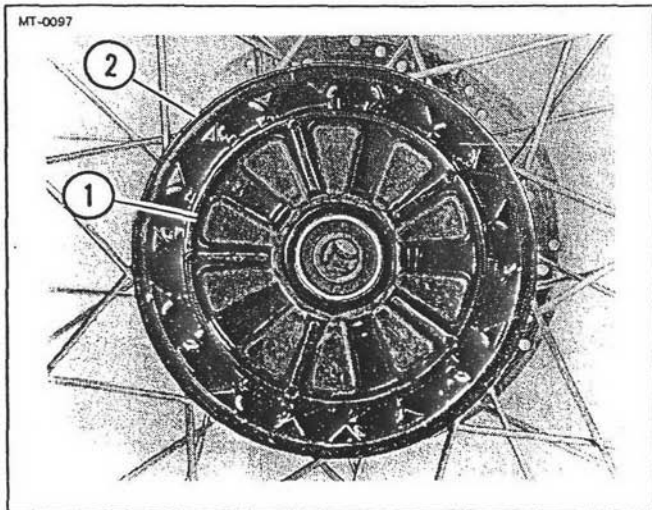

Figure 5-46. Cushion Drive Rubber and Hub
7. See Figure 5-46. Remove rear wheel and tire (1) from swing arm (2).
1. See Figure 5-46. If cushion drive rubber (1) separated from sprocket hub (2) when wheel was removed, position rubber into hub, being sure to observe correct positioning. Segments of rubber must match arrangement of compartments cast into hub.